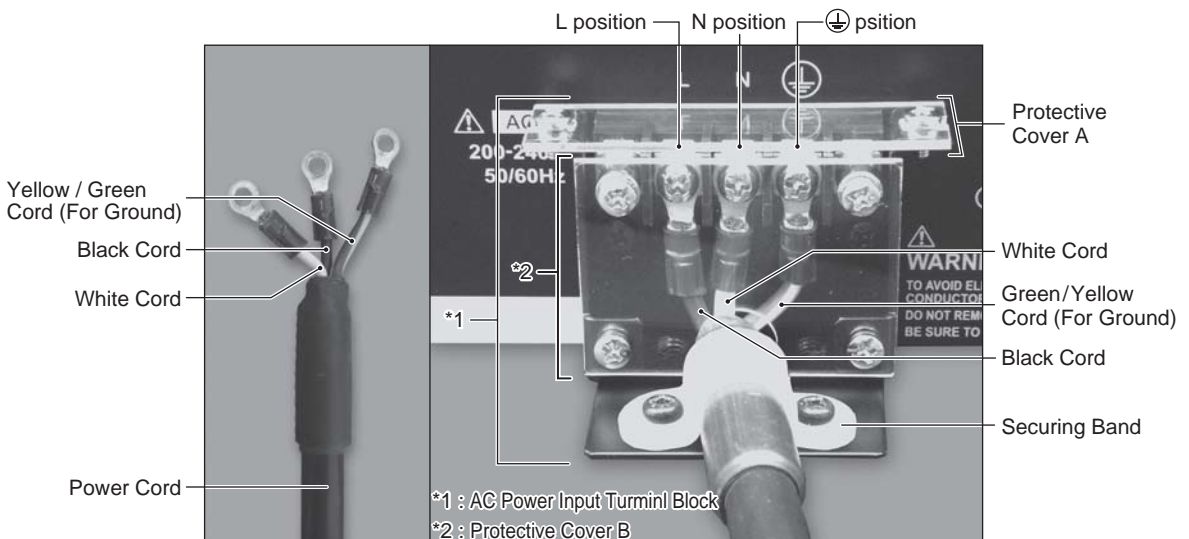

Fig.15
- (1) Loosen the mounting screws located on Protective Covers A , B and the Securing Band. Remove Protective Covers A , B and the Securing Band from the rear of the CONTROLLER.
- (2) The round terminal lugs are attached to the one side of the Power Cord. Remove the Terminal Screw from the AC Power Input Terminal Block. Make sure to connect the round terminal to the AC Power Input Terminal Block securely. (Table 2, Fig. 15)
- (3) After connecting the Terminal Screw to the AC Power Input Terminal Block, be sure to securely tighten the Terminal Screws.
- (4) Re-Attach the Protective Covers A and B to the AC Power Input Terminal Block by using the original mounting screws.
- (5) Secure the Power Cord using the Securing Band and Mounting Screw.